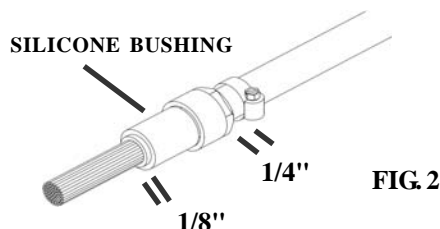

FIG. 2
3. **Choose the correct size bushing for the fiber count!** Slide the silicone bushing onto the fiber jacket until the jacket extends approximately 1/8" past the end of the bushing. Slide the compression nut up against the silicone bushing. Slide the clamp up to within 1/4" of the compression nut and tighten. **FIG. 2**